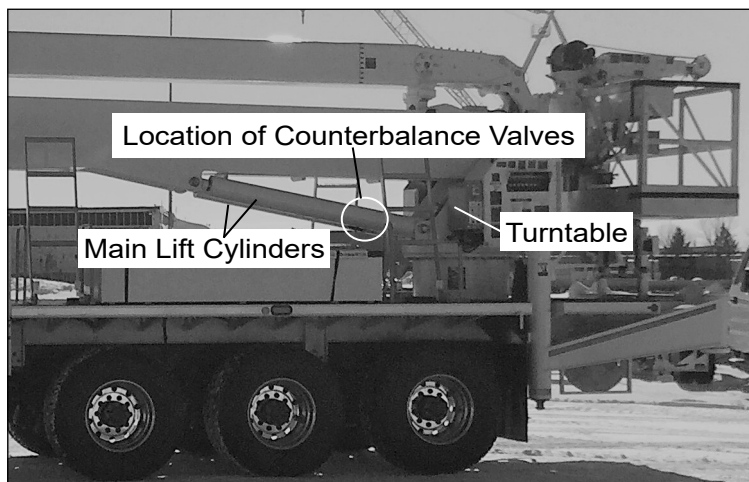

Figure 1 — Locating Main Lift Cylinders
2. Remove any tools and equipment below the main lift cylinders near the turntable to allow access for inspection of the counterbalance valves in the cylinders (refer to Figure 1).